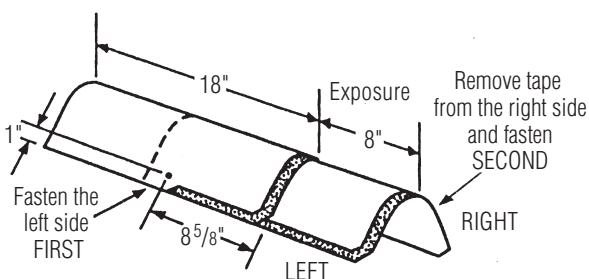

Figure 17-19: Installation of Shangle® Ridge shingles on hips and ridges.
7. Fasten each cap with two fasteners (Figure 17-19). The fasteners must be  $1\frac{3}{4}$ " long, or longer, so they penetrate either  $\frac{3}{4}$ " into the deck or completely through the deck, exposing at least  $\frac{1}{8}$ " of the tip of the nail. Expose 8" of the Accessory along the ridge or hip line and cover all fasteners.